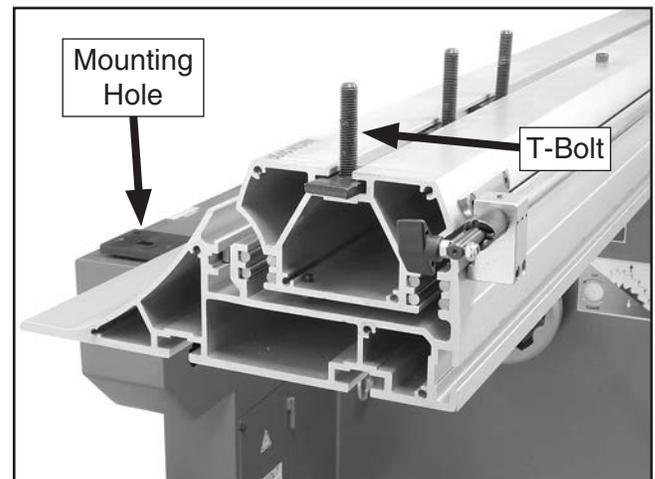

Figure 20. T-bolts inserted into the sliding table T-slot.
11. Insert the (3) M12-1.75 x 60 T-bolts into the sliding table T-slot, as shown in **Figure 20**, and space them apart the same distance as the mounting holes in the frame top.